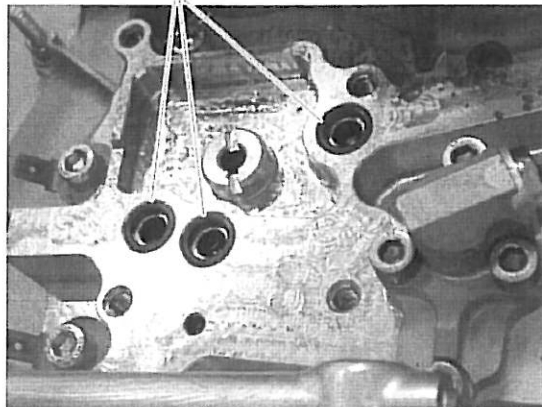

Figure 4
4. Remove the three O-rings at the ground plate very carefully and discard them. See Figure 4.